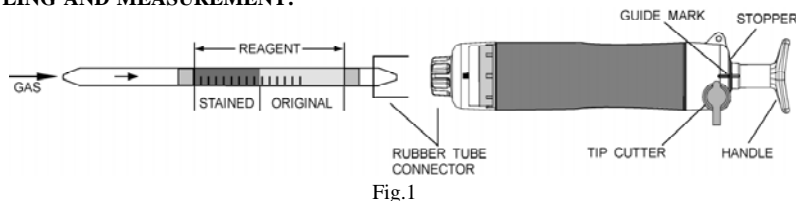

Fig.1
- ① Break both ends of detector tube.
- ② Insert the detector tube into aspirating pump securely as shown in Fig.1. (Arrow mark shall point to the pump.)
- ③ Align the guide marks on the shaft and stopper of the aspirating pump.
- ④ Pull the handle at 1/2 strokes (to 50mL line) until it locks and wait for 0.5 minutes or until the completion of sampling is confirmed with the flow indicator of the pump (See descriptions about the flow indicator in the instructions of the pump).
- ⑤ On completion of sampling, read the scale at the maximum point of the stained layer.